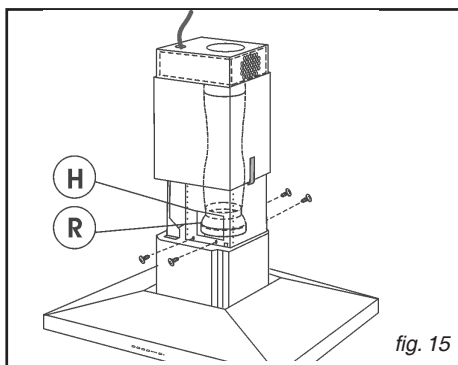

fig. 15
- Secure the hood to the telescopic structure by means of 4 screws (provided) - Fig. 15.
- Secure the air exhaust pipe to the reducer (R) through the openings H (Fig. 15).